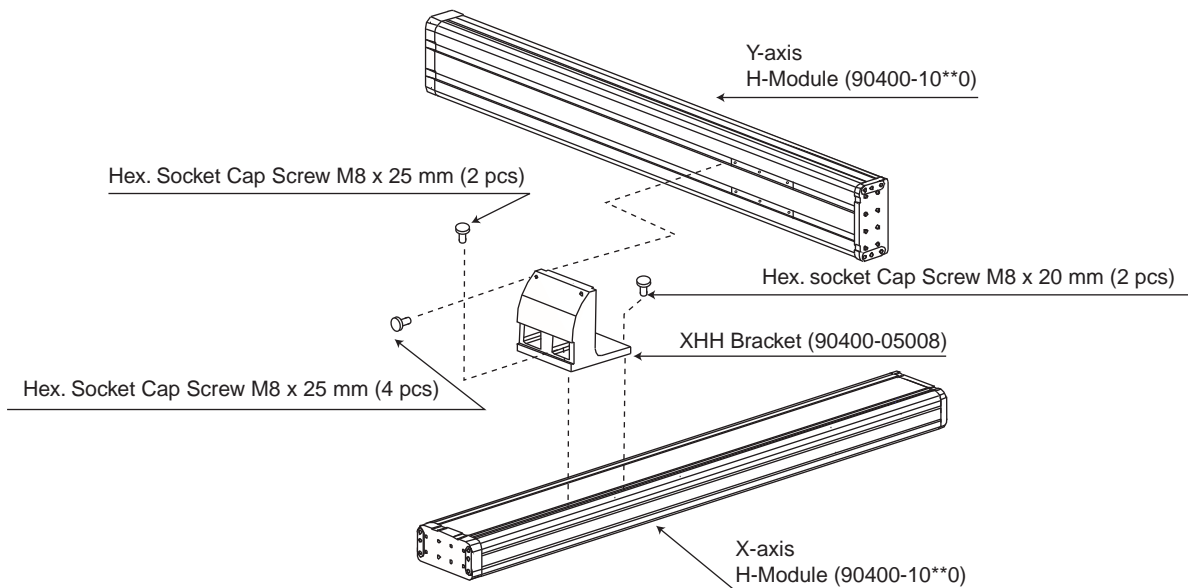

Figure 4-51. X-1 Type Mechanical Assembly
4. Mate the Y-axis to combining bracket by aligning the pin holes on the Y-axis module slider to the pins on the side of the bracket. Carefully mate the pins and pin holes to avoid damaging the pins. Install the mounting bolts (see Figure 4-51, and refer to Table 3-3 for the mounting bolt specifications).